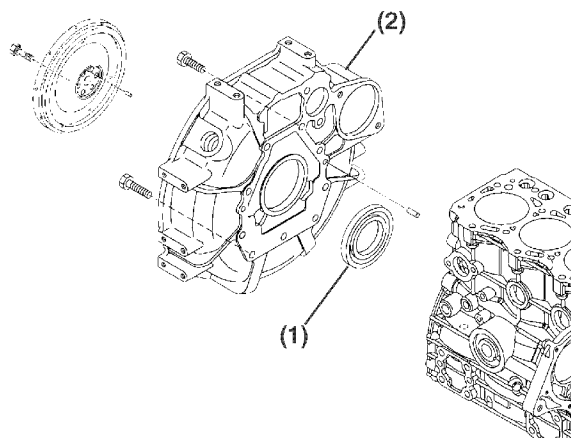

Figure 6-62
- Remove the rear oil seal (Figure 6-62, (1)) from the flywheel housing (Figure 6-62, (2)).
- Apply a continuous bead of ThreeBond Liquid Gasket No. 1212, Yanmar Part No. 977770-01212 to the outside diameter of a new oil seal (Figure 6-62, (1)).
- Install a new seal in the flywheel housing (Figure 6-62, (2)) with the lip facing in away from the flywheel. Apply lithium grease to the lip of the seal.